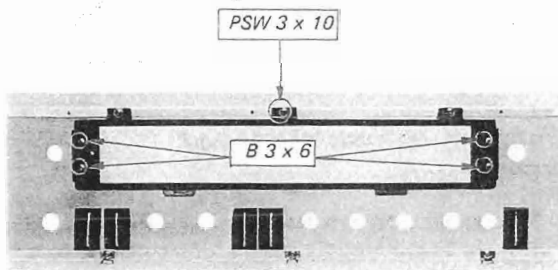

Fig. 2-9. Dial glass removal
2. Remove the five screws shown in Fig. 2-9. This frees the dial glass.